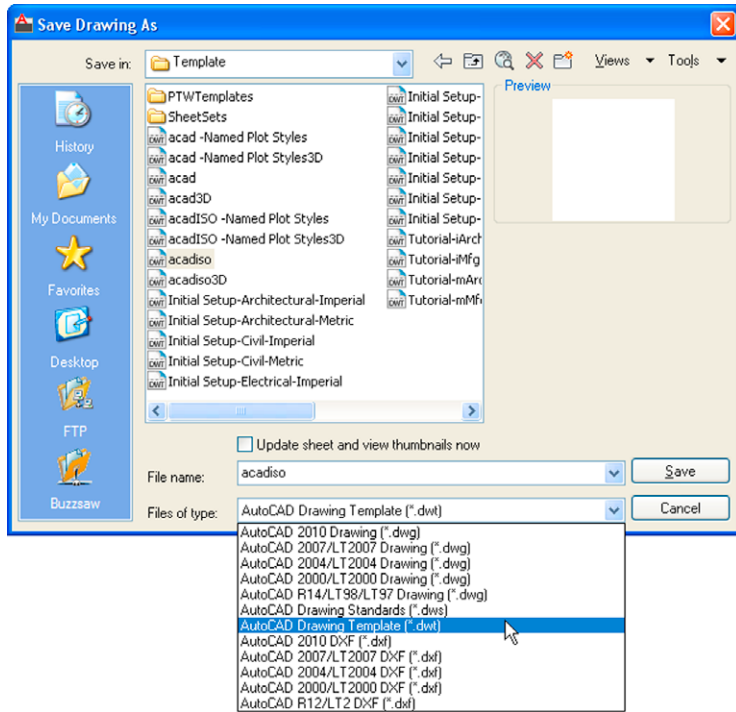

Fig. 4.21 Saving the template to the name **acadiso.dwt**
2. In the **Save Drawing As** dialog which comes on screen (Fig. 4.21), *click* the arrow to the right of the **Files of type** field and in the popup list associated with the field *click* on **AutoCAD Drawing Template (\*.dwt)**. The list of template files in the **AutoCAD 2011/Template** directory appears in the file list.